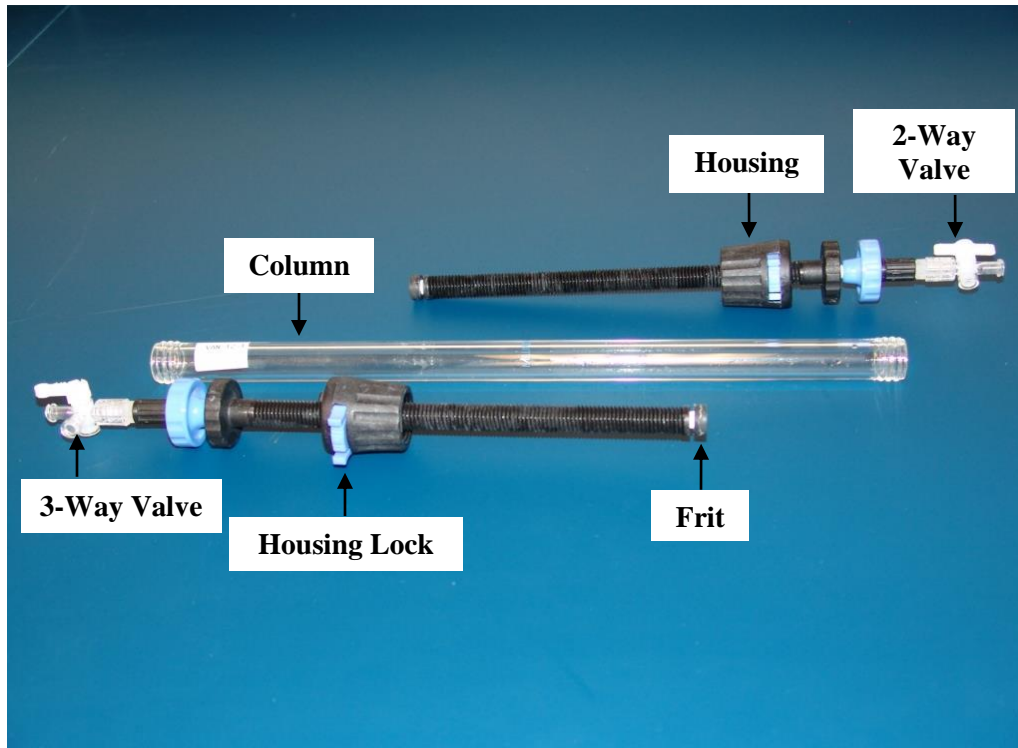

Figure 4: Column Components
- 9.4. Figure 4: Column components